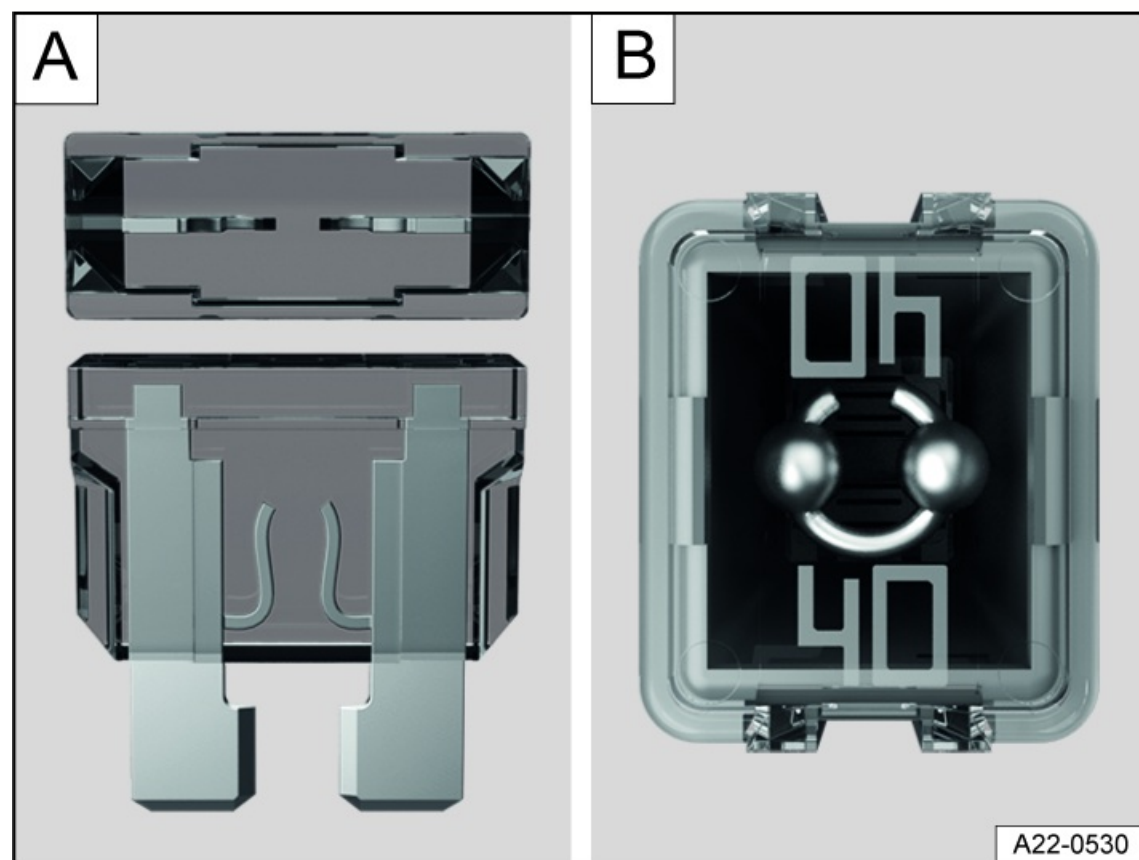

Fig. 147 Blown fuse (general example).
- A blown flat connector fuse (ATO®, MINI®) has metal strips that have burned through, which you can see through the transparent housing from above and from the side *fig. 147* **A**.
- A blown block fuse (JCASE[®]) is recognizable by the melted metal strip seen through the transparent housing from above fig. 147 **B**.